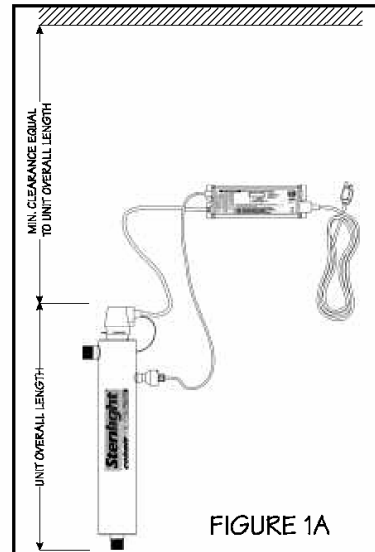

FIGURE 1A
2. Select a suitable location for the disinfection system and its related components. As it is recommended to install a ground fault protected circuit (GFCI), make sure that this is taken into consideration prior to any installation. The system can either be installed vertically (inlet port at the bottom) (Figure 1A), or horizontally (Figure 1B). However, the vertical installation with the lamp connector on top is the most preferred method. When selecting a mounting location, you must also leave enough space to allow for the removal of the UV lamp and/or quartz sleeve (typically leave a space equal to the size of the reactor chamber itself).